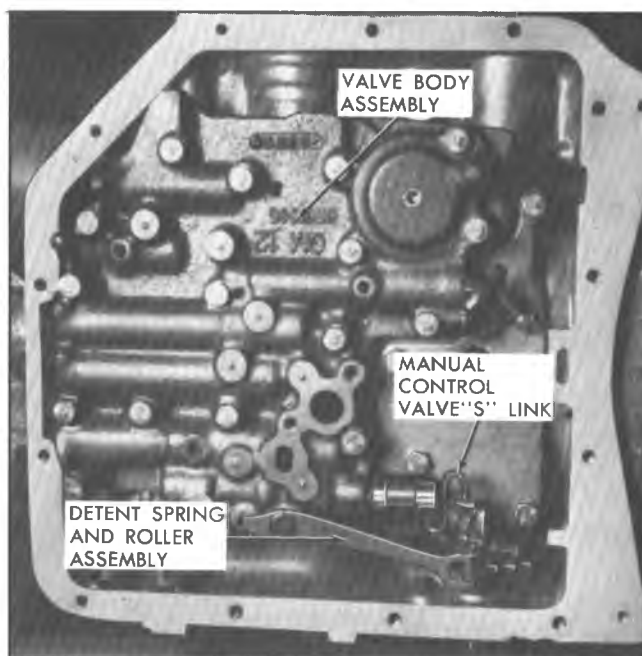

Fig. 11M--Detent Spring and Roller Assembly
1. Remove detent spring and roller assembly from valve body. Remove valve body to case attaching bolts (fig. 11M).